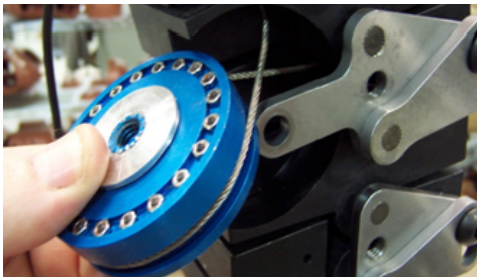

Figure 140 - Turn Damper and Disengage Cable
6. Turn Damper to untwist cable. Disengage damper from Cable. Set damper aside for maintenance and/or later re-installation (Figure 140).